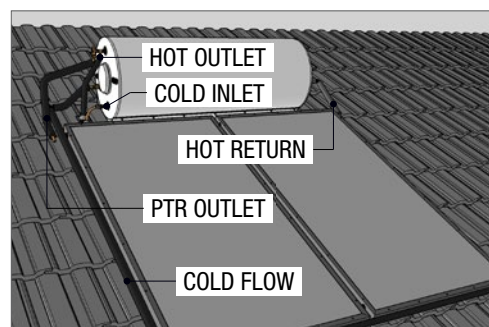

Fig 13
6. Complete the flow and return plumbing as per the particular system schematics (fig 13)